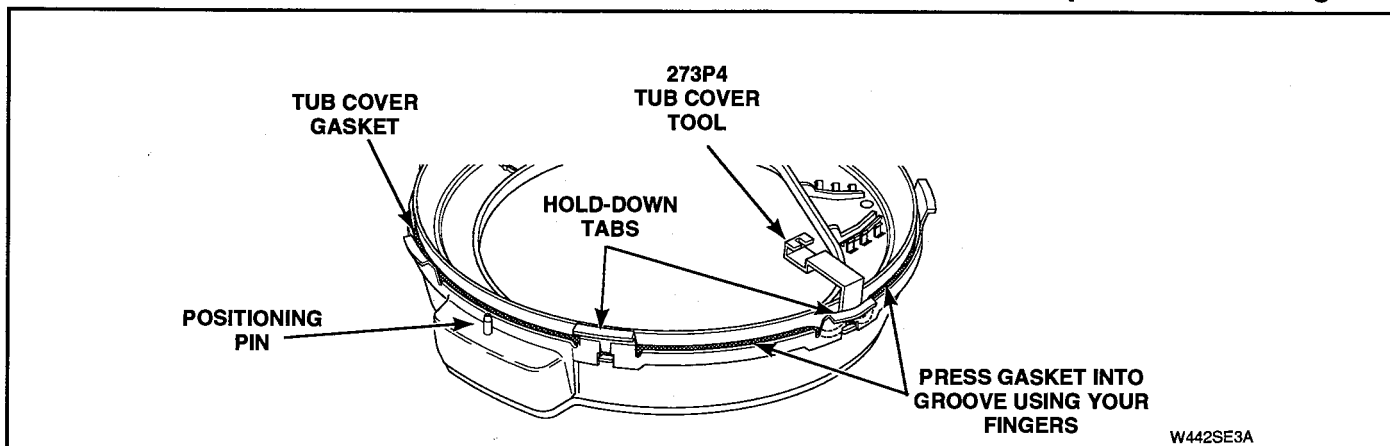

Figure 5-30
- Starting at positioning pin located at the bleach funnel area, lay gasket into gasket groove of tub cover. See Figure 5-30.
- Install gasket past ends of hold-down tabs to bottom of gasket groove using semi-circled end of tool Part No. 273P4. See Figure 5-30.
3. Starting at the positioning pin located at the bleach funnel area, lay gasket into gasket groove of tub cover. See Figure 5-30.